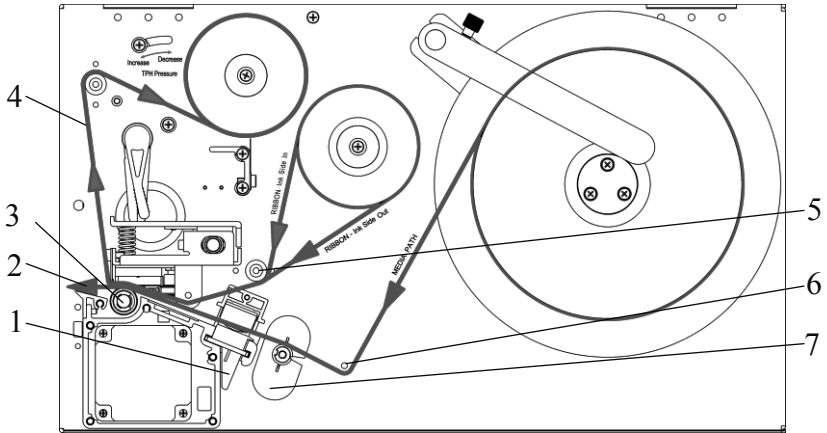

Figure 5
5. Follow the Ribbon Path per Figure 5, slide the ribbon roll on the ribbon supply spindle to the inside edge;
6. Refer to Figure 5, lead the ribbon through and under the Ribbon Guide and the printhead module; (The ink side of the ribbon should always be facing the media.)
4. Refer to Figure 5, lead the media through and under the media guide lever, in between the media sensor;